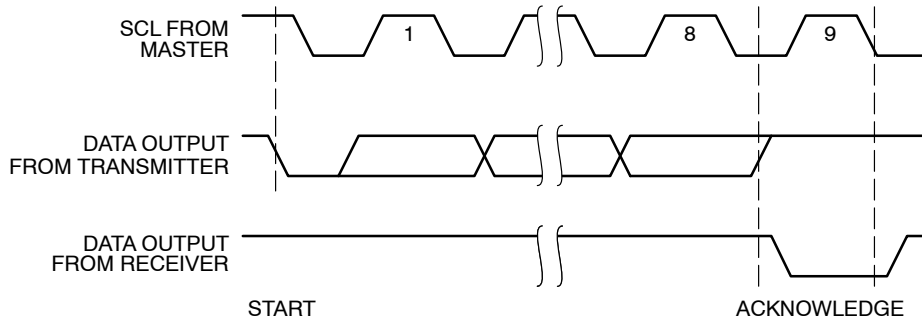
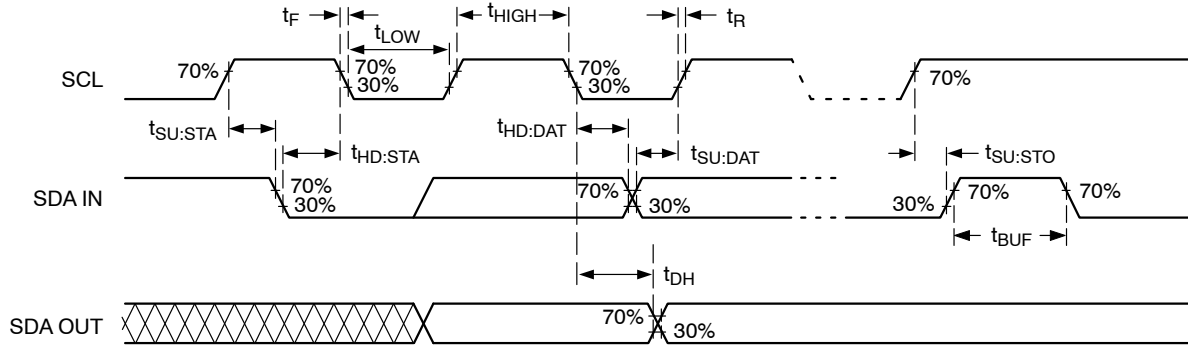

Figure 4. Acknowledge Timing
Figure 5. Bus Timing
- Timing reference points are set at 30%, respectively 70% of V_{CC} , as illustrated in Figure 5. Bus loading must be such as to allow meeting the V_{IL} and V_{OL} as well as all other timing requirements. The minimum clock frequency of 10 kHz is an SMBus recommendation; the minimum operating clock frequency is limited only by the SMBus time-out. The device also meets the Fast and Standard I²C specifications, except that T_i and t_{DH} are shorter, as required by the 1 MHz Fast Plus protocol.
A matching Slave address is acknowledged (ACK) by the Slave by pulling down the SDA line during the 9th clock cycle (Figure 4). After that, the Slave will acknowledge all data bytes sent to the bus by the Master. When the Slave is the transmitter, the Master will in turn acknowledge data bytes in the 9th clock cycle. The Slave will stop transmitting after the Master does not respond with acknowledge (NoACK) and then issues a STOP. Bus timing is illustrated in Figure 5.